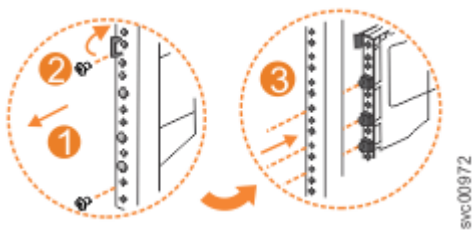

Figure 112. Remove the rail assembly from the front frame bracket
1. Remove the two screws that attach the outer rail section to the front bracket assembly, as shown in Figure 112 on page 165.
2. Remove the rail section by pulling it away from the front bracket, as shown in Figure 112 on page 165.